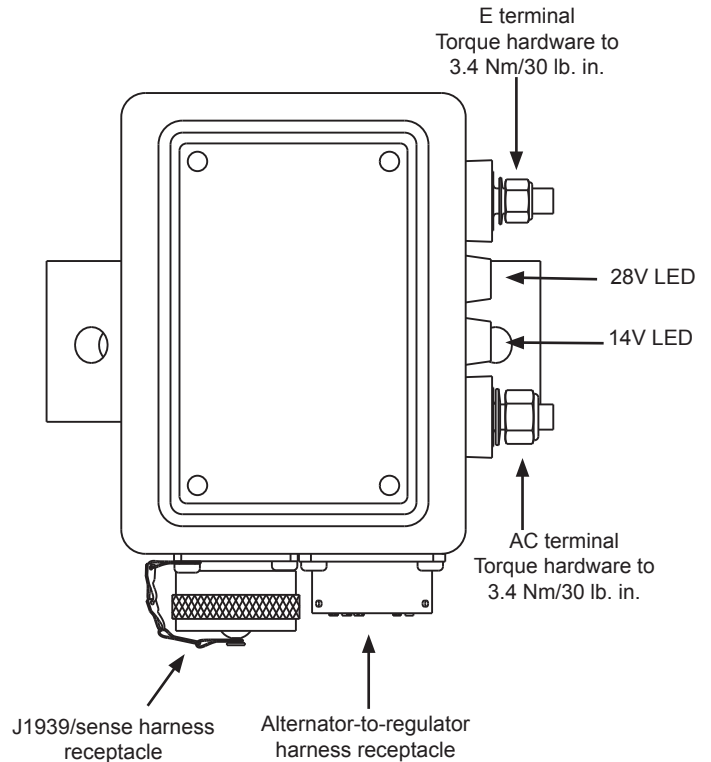

Figure 6: Regulator Connections
2. Plug alternator-to-regulator into receptacle on regulator. See Figures 6 for receptacle location.
- **E terminal** (required) must receive voltage from vehicle DC ignition source or multiplex in order to energize regulator. Torque to 4.5 Nm/40 lb. in. See Figure 6.
- **AC terminal** (if required) taps AC voltage from alternator, typically half the charge voltage (3A maximum). AC terminal also provides alternator RPM frequency at 10:1 ratio for use with tachometer. Torque terminal hardware to 4.5 Nm/40 lb. in. See Figure 6.
4. If using a J1939/sense harness, plug harness into J1939 receptacle on regulator. See Figure 6 for receptacle location. Reference installation instructions included with harness for more information. Harness sold separately. Contact CEN for harness options.